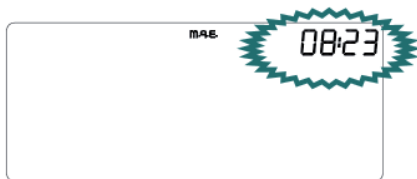

Fig. 13
*Adjustment is possible once only the segments relating to the clock are active, while all the other segments are switched off (figure 13).*